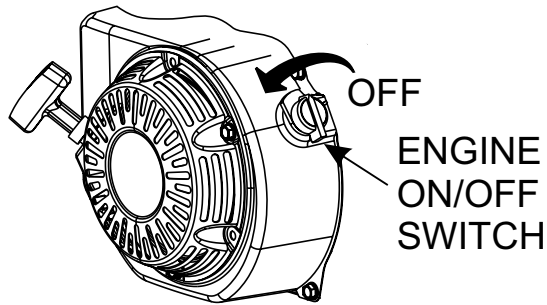

Figure 37. Engine ON/OFF Switch (OFF)
2. After the engine cools, place the engine ON/OFF switch to the **OFF** position (Figure 37).